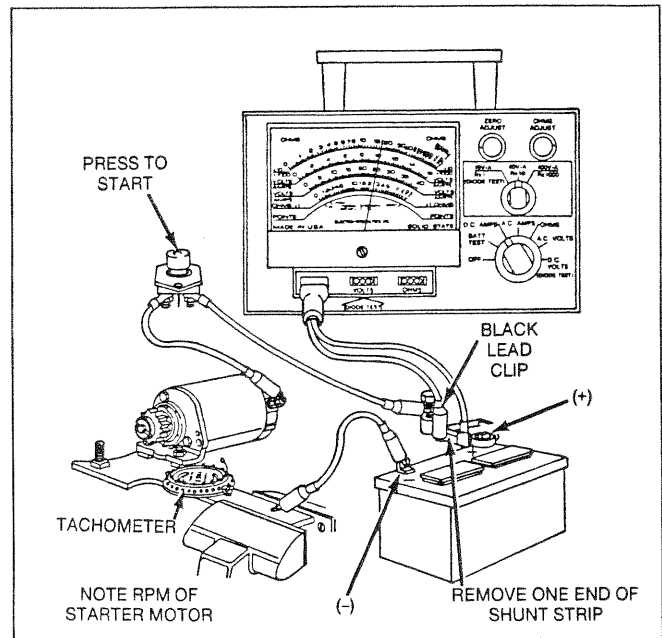

Figure 50. Checking Starter Motor Performance
- Connect the starter motor, battery and ammeter as shown in Figure 50.